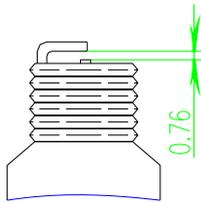

FIG 26
- 6.9.4 Set the gap between the electrodes on the spark plug at 0.03 inch (0.76mm). (FIG 26)